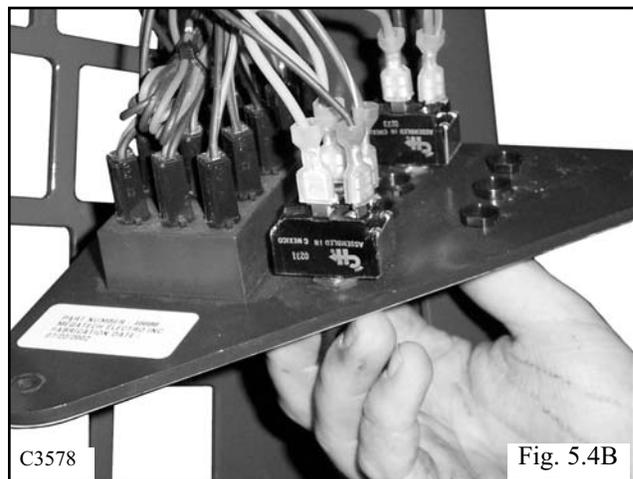

Fig. 5.4B
- 2 Disconnect the spade terminals on the rear of the switch. (Fig. 5.4B)